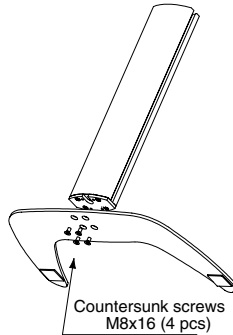

Figure 1
- ① Attach base to bottom of support column using four (4) M8 x 16 screws (see Fig. 1).